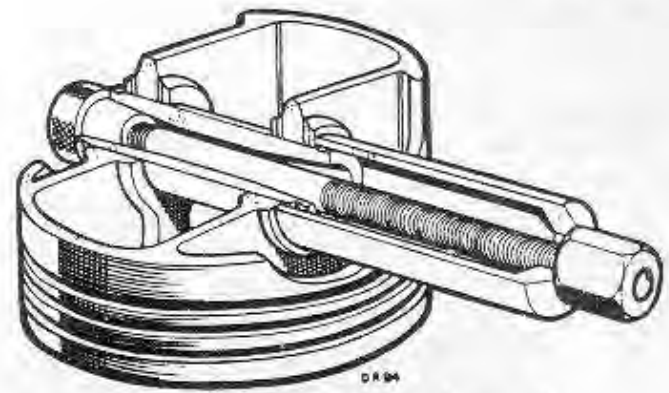

Fig. 7. Extracting a gudgeon-pin
60. If the gudgeon-pin is too tight to be withdrawn by hand, remove the remaining circlip and thrust washer and use the gudgeon-pin extractor T2200-157. Thread the extractor draw bolt through the gudgeon-pin as shown in fig. 7, until the knurled nut abuts one end of the gudgeon-pin. Place the extractor body over the